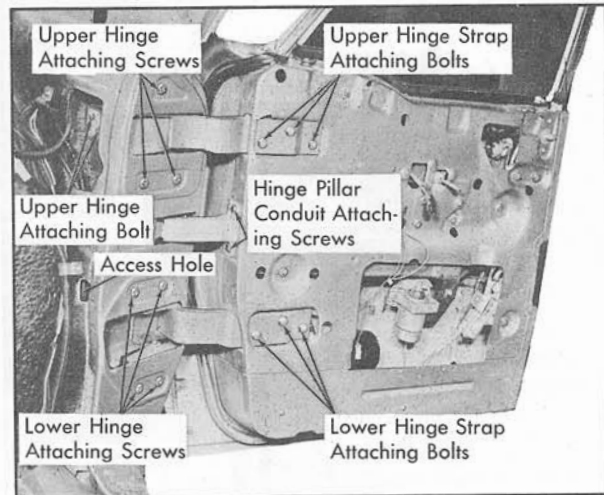
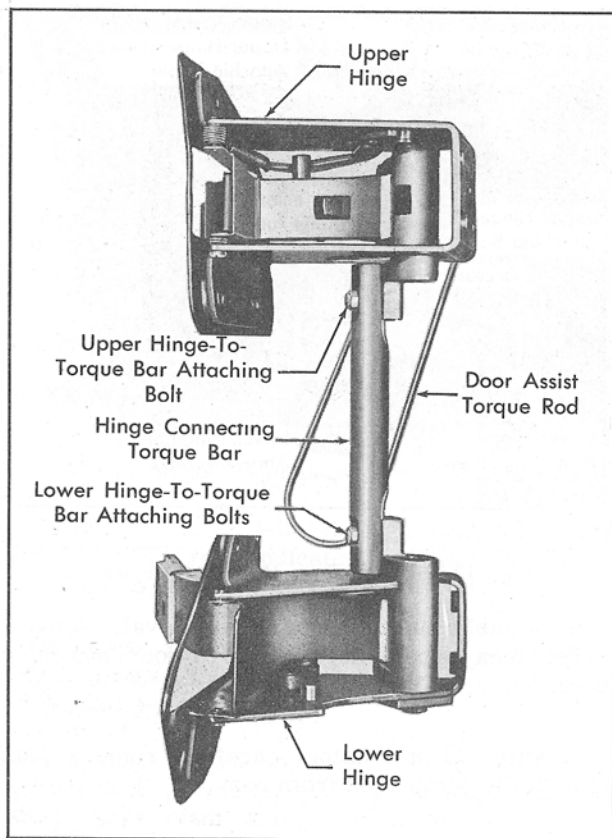

Fig. 17-35 Rear Door Hinge Attachment
Fig. 17-36 Rear Door Hinges and Connecting Torque Bar
3. Remove door hinge pillar conduit attaching screws, Fig. 17-35.
6. Suitably support door for removal. Remove lower then upper hinge strap-to-door attaching bolts, Fig. 17-35.
(47) Rear Door Hinges Removal and Installation
3. Through rear quarter inner panel access holes, Fig. 17-35, remove bolt securing upper and/or lower hinge to hinge connecting torque bar. See Fig. 17-36.
- a. If removing upper hinge remove two hinge attaching bolts, Fig. 17-35.
5. Remove hinge attaching screws, Fig. 17-35. Disengage hinge from connecting torque bar and remove hinge from body.
3. Loosen hinge strap attaching bolts, Fig. 17-35; adjust door "up or down" or "fore or aft" as required and tighten bolts.